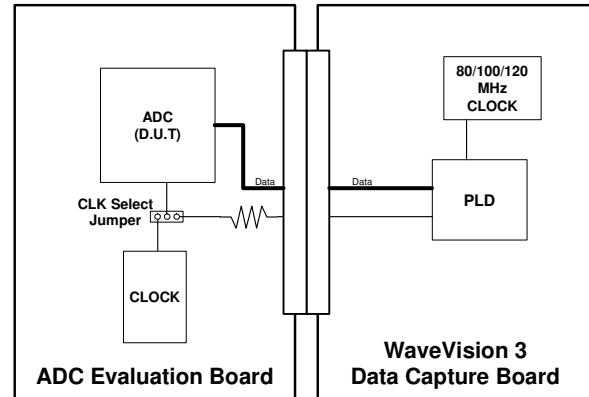
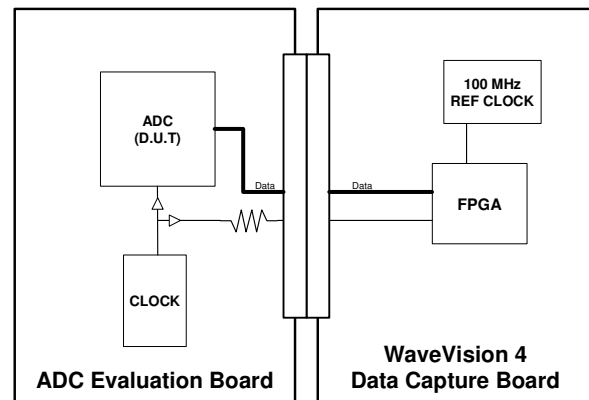

Figure 1. WaveVision3 ADC Clock Arrangement
Figure 2. WaveVision4 ADC Clock Arrangement
The WaveVision3 clock circuit arrangement is as shown in *Figure 1*. The ADC clock source is chosen with a Clock Select Jumper to be either a clock source on the DUT board or the divided master clock on the WaveVision3 Data Capture Board. For many boards another choice is an external clock source, such as a signal generator. The master clock on the WaveVision3 Data Capture Board is always used to capture data from the ADC. Better performance is obtained with the ADC clock source on the DUT board, but there is a problem in that the two clock sources do not always have the same phase relationship, sometimes resulting in the capture of bad data and the need to recapture that data.
*Figure 2* shows the ADC clock circuit arrangement for the WaveVision4 data capture system. From a block diagram these circuits at first appear to be quite similar, however, there are important differences.
with the clock line to the WaveVision4 Data Capture Board. This resistor is shown in *Figure 1* and in *Figure 2*.